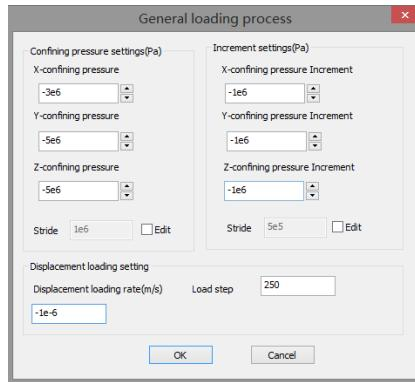

Figure 42 True triaxial loading control
- (5) Set the loading control method for general mechanical problems (Figure 42);